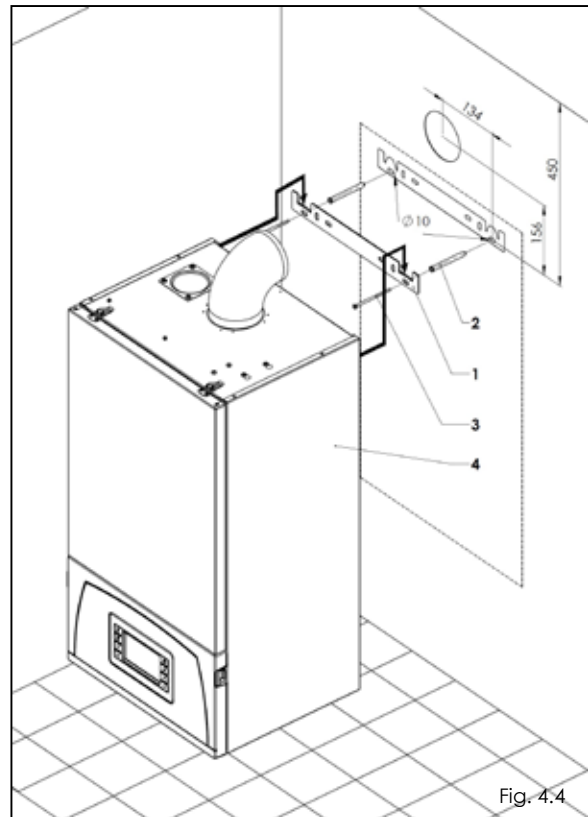

Fig. 4.4
- Drill two holes for fixing the boiler support (1);
- Mount the boiler support (1) with the supplied dowels and screws (2, 3) on the wall (fig.4.4);
- Suspend the boiler (4) on the boiler support.